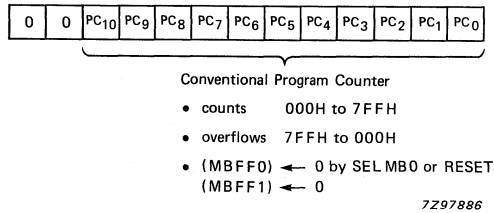

Fig. 17 Program counter.
**Program counter** (see Fig. 17).
A 12-bit program counter is used to facilitate 8 K bytes of ROM being addressed. The arrangement of the bits is shown in figure 17. During an interrupt subroutine PC11 and PC12 are forced to logic 0. All 12 bits are saved in the stack during CALL and interrupt routines.